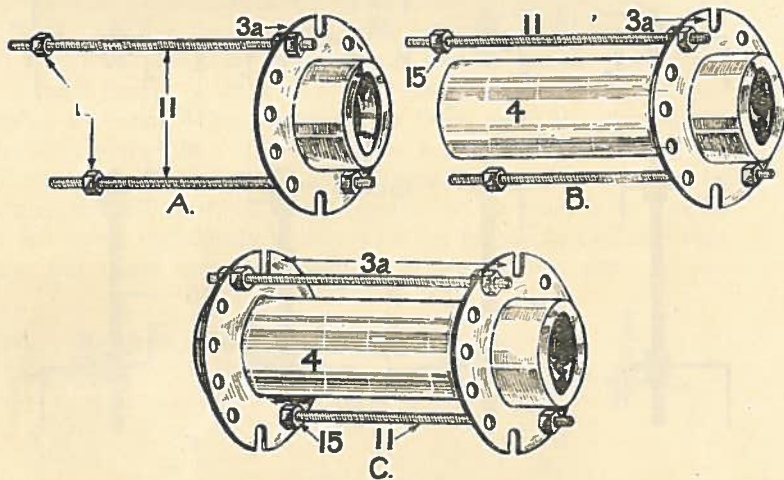

Fig. 5.
MOUNTING OPTICAL TUBES. (Fig. 5.)
The Reflector (42) is mounted in either of the holes on the side of the Optical Box (1), or Instrument Stand (38), as shown in Fig. 5, a Hexagonal Nut (15) being used inside the Stand or Box, and a Terminal Nut (14) on the outside. See that the Reflector is central with the large hole in the top of the Stand or Box.
Insert the Bi-Convex Lens (17) in one of the Ring Mounts (3a) and secure with the Split Ring (10). Complete the Optical Tube assembly as shown (see A, B, and C., Fig. 5, p. 18). Insert the 1in. Screwed Bolt (12) in the Ring Mount (3a) (without the Lens) and secure with Hexagonal Nut (15). Thread on another Hexagonal Nut (15) and place the Lampholder (5) complete with the Focus